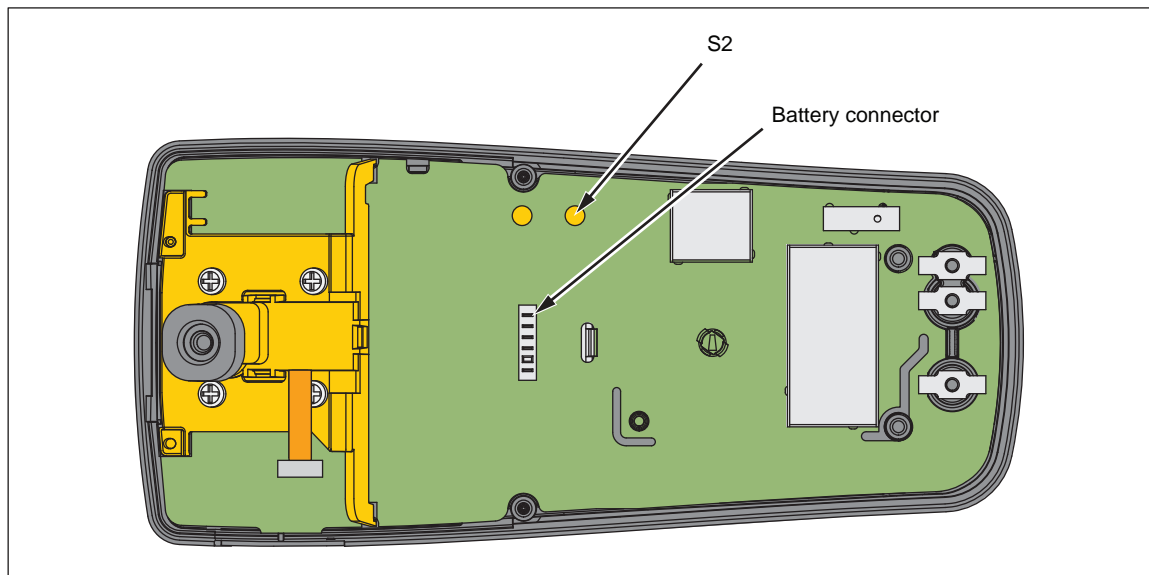

Figure 4. Calibration Password Reset
11. Short across the keypad (S2) on the PCA for >1 s until you hear a beep. See Figure 4. The default password is restored.